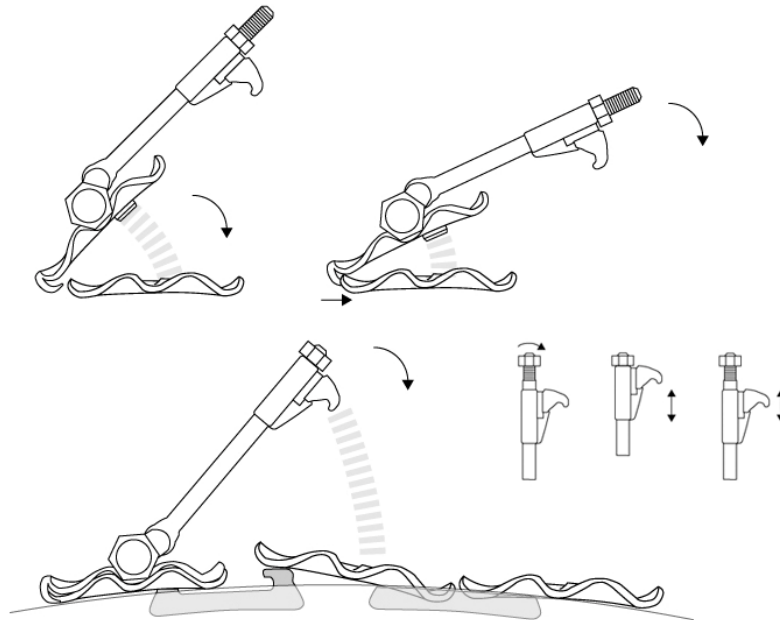
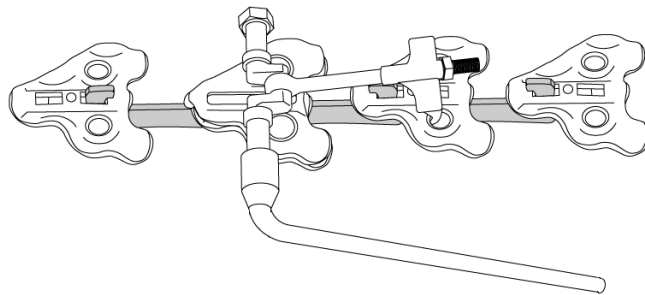
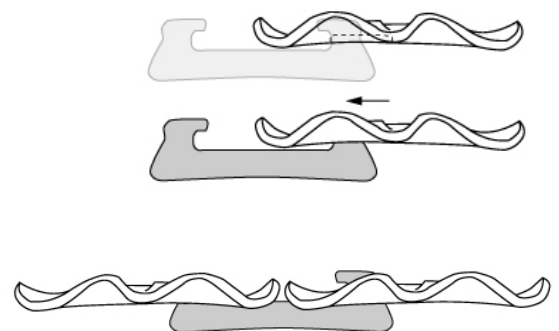
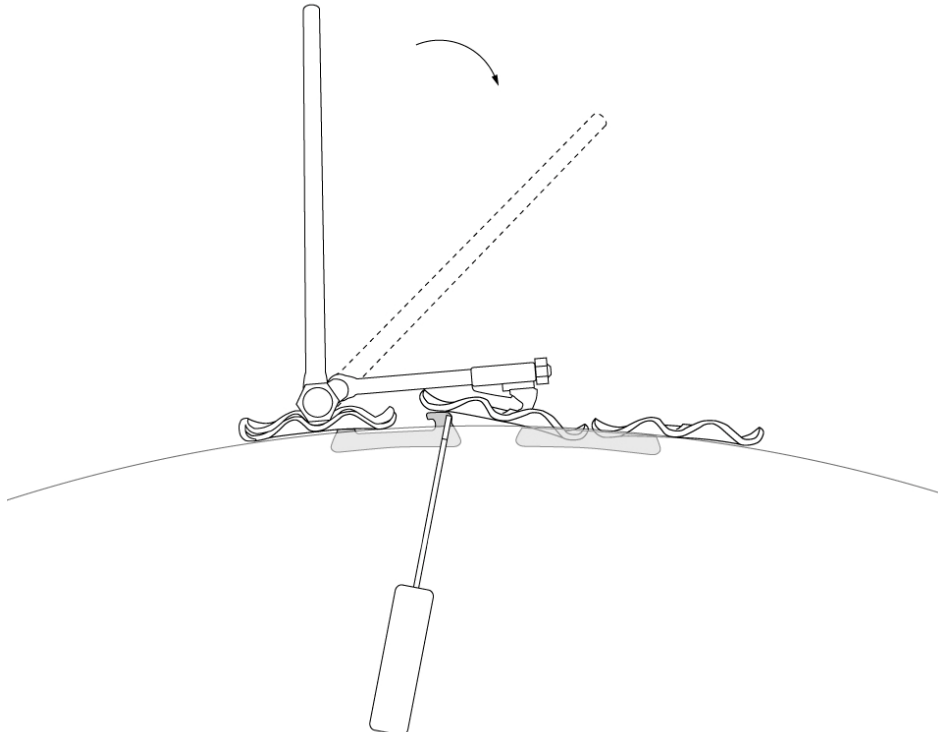

Fig. 5
Fig. 6
Fig. 8
Fig. 9
5. To securely close the chain the Tension Clamp (D) is attached to the open ends of the chain (Fig. 5) ensuring the special hook feature is first positioned correctly over the leading edge of the plate followed by the two rear hooks into the holes of the plate to be connected. The Tension Clamp (4) can be adjusted in length by turning its end screw (Fig. 5).
Attach the supplied Clamp Lever (E) to the Tension Clamp (D) (Fig. 6).
**CAUTION: MAKE SURE THE CONNECTOR IS INSERTED COMPLETELY & CORRECTLY INTO THE PLATE (Fig. 8).**
6. Now that the chain is connected correctly, remove the Tension Clamp (D) and check the chain is attached securely to the tyre. Using both your hands try to move the chain. The chain should be very tight on the tyre and there should be no movement. If there is movement you will need to shorten the length of the chain by replacing one or more long connectors (B) with the same number of short connectors (C) to reduce the length of the chain in increments of 5mm until the correct length is achieved. If the problem persists review steps 1 to 5.
7. Removal of the MITA is simple. The modular design allows the chain to be broken at any point. Correctly attach the Tension Clamp (D) as described above (Fig. 5) at any position on the chain. Attach the Clamp Lever (E) to the Tension Clamp (D) (Fig. 6). Rotate the Clamp Lever (E) 180° to draw two plates closer together (Fig. 7-8). The plate should disconnect easily from the connector, if not gently lift the plate using the Screwdriver (F) (Fig. 9).